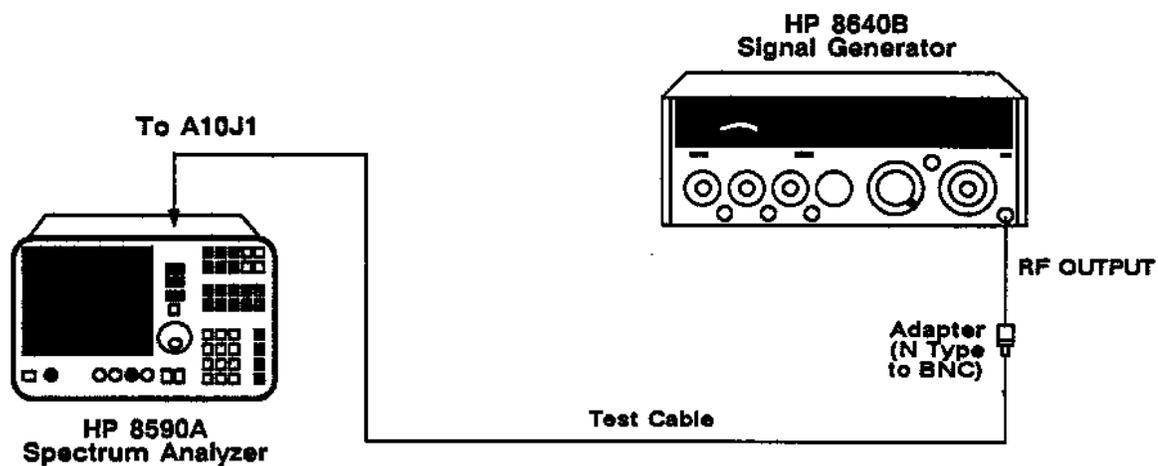

Figure 2-3. Second IF Bandpass and Bandpass Filter Adjustment
- Remove the W15 blue cable from the second IF BPF input, A10J1. Connect the signal generator through the test cable to A10J1, as shown in Figure 2-3.